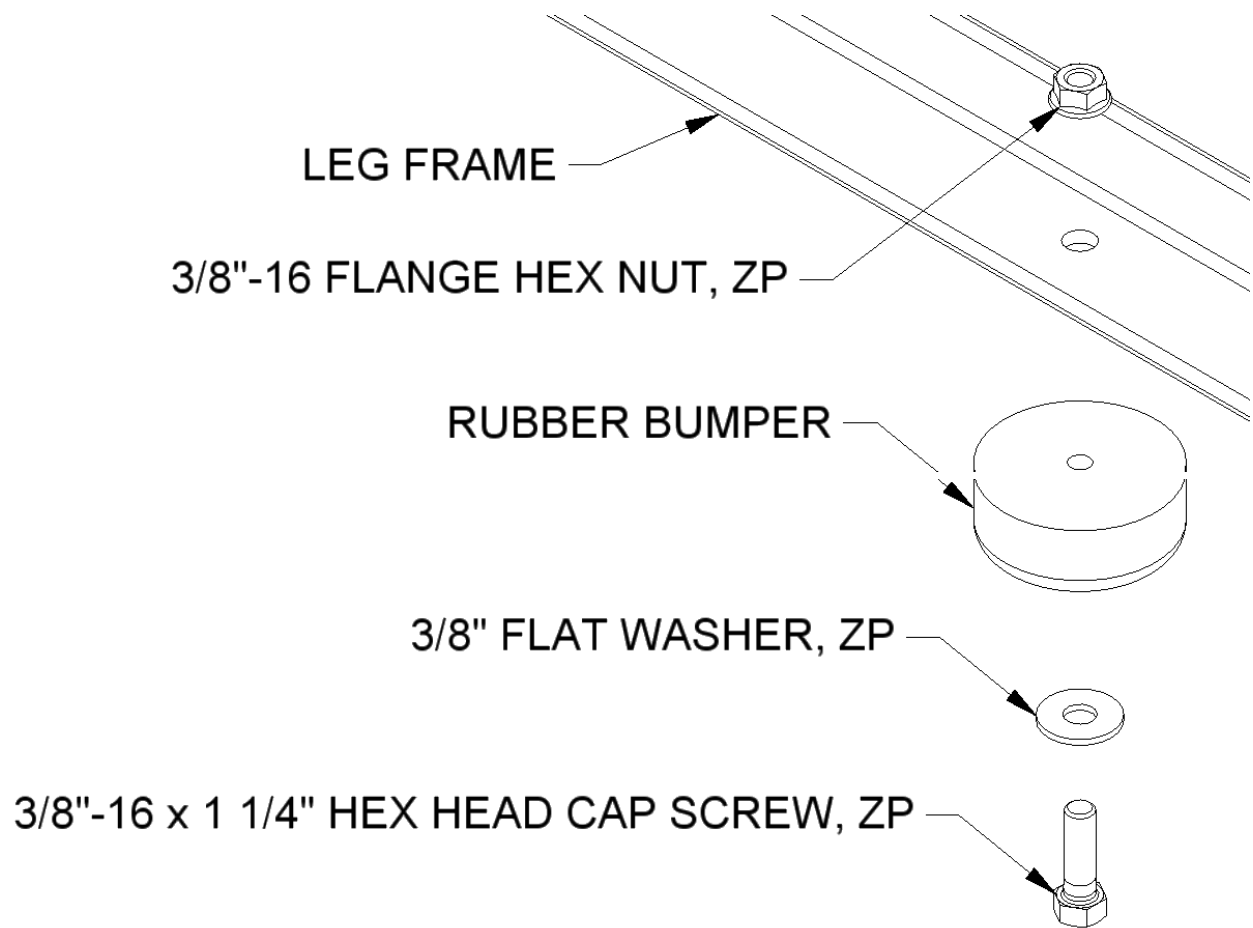

Figure 1
1. Attach four rubber feet (bumpers) on the bottom of each leg as shown in figure 1.